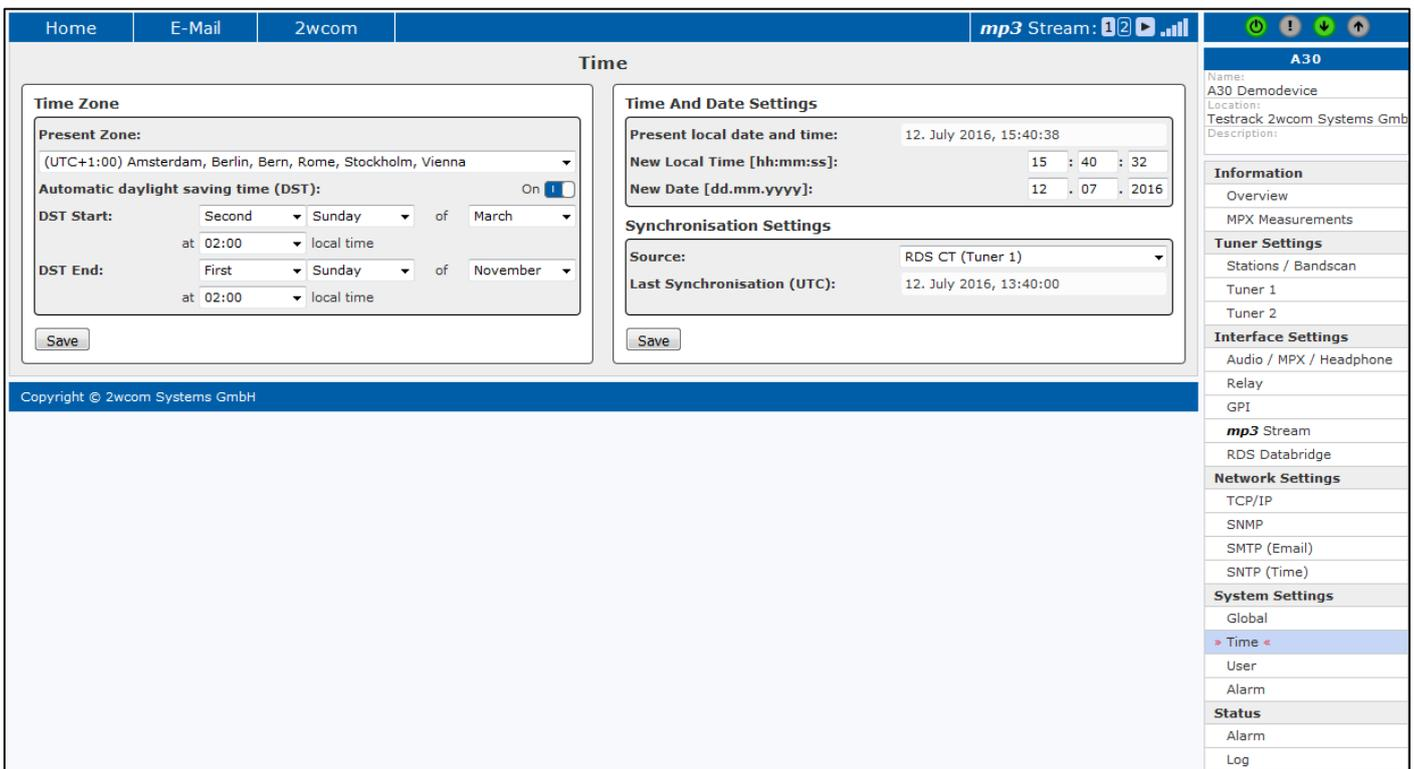

Fig. 66: System Settings - Time
2. In block **Time and date settings**, set up the internal time in the 24h format and the datum (see Fig. 66).
- ⇒ The current time and datum of the internal clock is displayed under "Present local device time and date" in the same **Time and date settings** block (see Fig. 66).